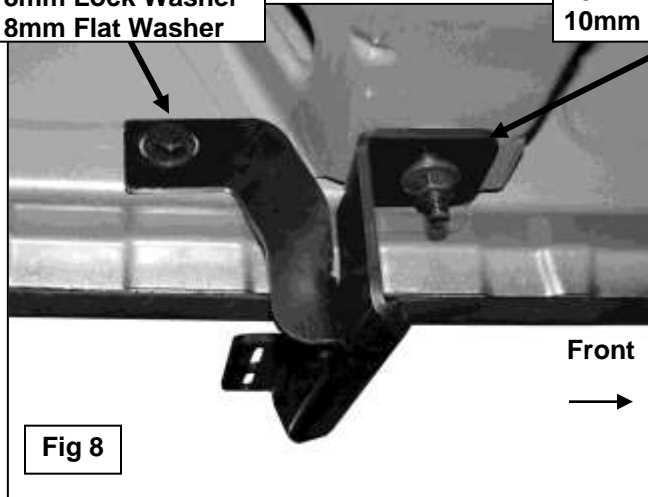

Fig 8
- g. Reinstall the Center Mounting Bracket and Support Bracket, **(Figure 7B)**. Bolt the tab on the Support Bracket to the Insert with (1) 8mm Hex Bolt, (1) 8mm Lock Washer and (1) 8mm Flat Washer, **(Figure 8)**. Leave hardware loose at this time.